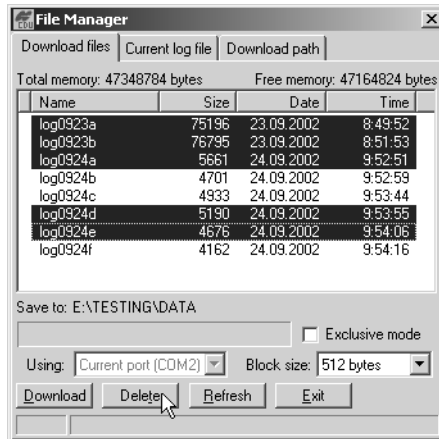

Figure 4-10. Delete Files
- On the **Download files** tab, select the file(s) you want to delete (Figure 4-10). To select multiple files, hold down the **shift** key and click on nonsequential files to select several files at once; or hold down the **Ctrl** key and click on individual files.
- Click **Delete** (Figure 4-10).